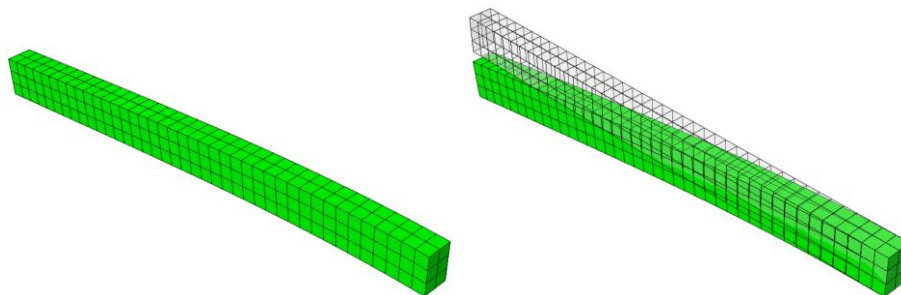

Figure 1-33 – Deformed model shape.
1. In the toolbox, click  (or select **Plot** → **Deformed Shape** from the main menu bar) to view a deformed model shape plot, as shown in Figure 1-33.